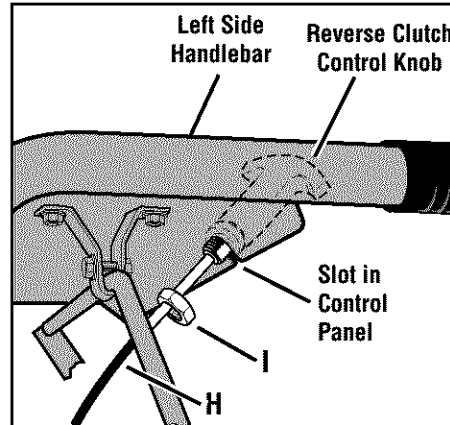

Figure 2-5: Attach reverse clutch control assembly to slotted hole in handlebar panel.
1. Carefully unwrap the reverse clutch control cable (H, Figure 2-5) from its shipping position and route it up along the inside edge of the left side handlebar. A knob and large hex nut (I) is installed on the cable.
2. Insert the cable into the slot in the control panel and fit the threaded assembly into the hole in the slot (see Figure 2-5). Be sure that the flat side of the threaded assembly is aligned with the flat side of the hole. Slide the hex nut (I) up the cable and tighten it securely.